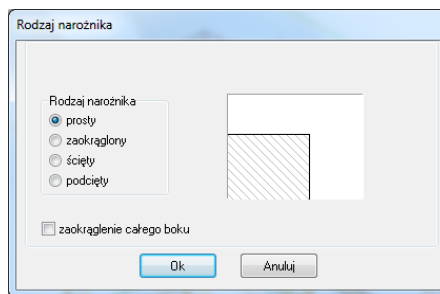

Fig. 200 – types of corners
- then go to the window in which you can select the type of cut (Fig. 200).